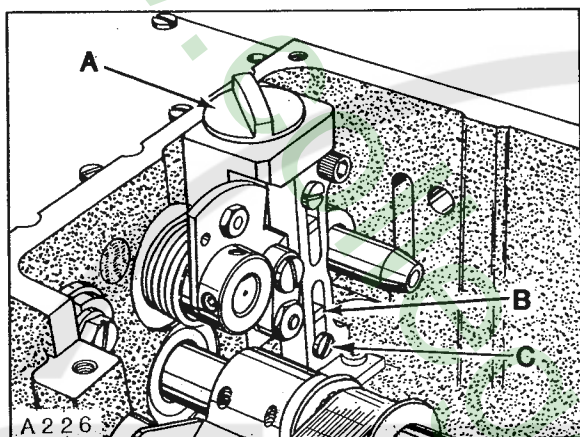

Fig. 20
Stitch length can be changed by pressing down and turning stitch length regulating knob (A, Fig. 20) clockwise to shorten or counterclockwise to lengthen the stitch. Recheck front to rear clearances in throat plate as described under "FEED DOG SETTINGS" whenever stitch length is changed. Bottom limit stop (B) should be set by screw (C) to prevent regulating knob (A) from accidentally being turned beyond the desired maximum stitch length.